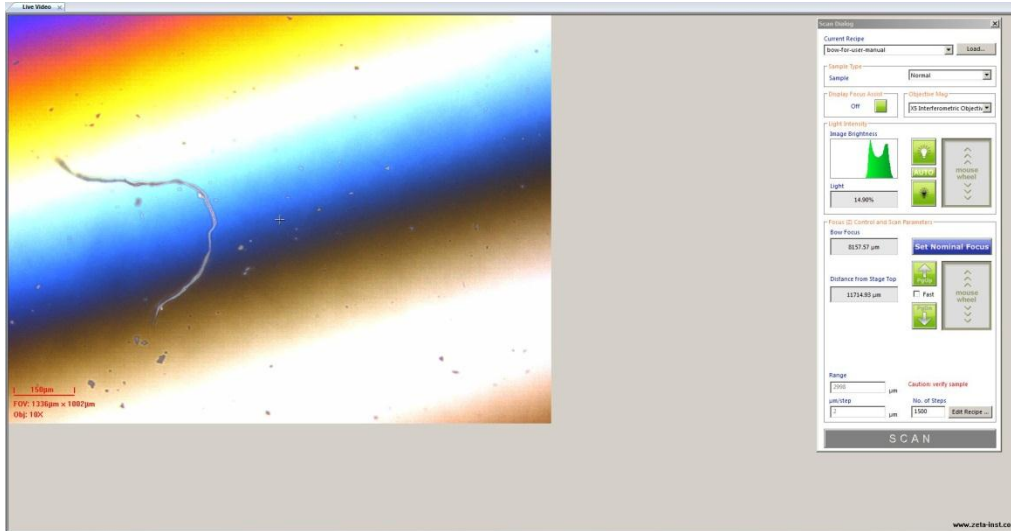

Fig. 45. Interferometer fringes
6. Uncheck the *Fast* checkbox, then move the head slowly in the range of 3000 to 4000 μm above the zero point until colorful interference fringes appear. Fig. 45 shows an example.